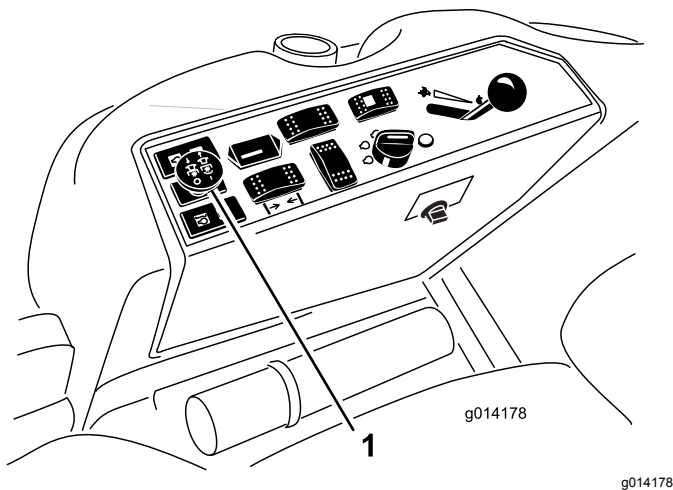

Figure 25
3. Pull up the PTO switch to engage it (Figure 25).